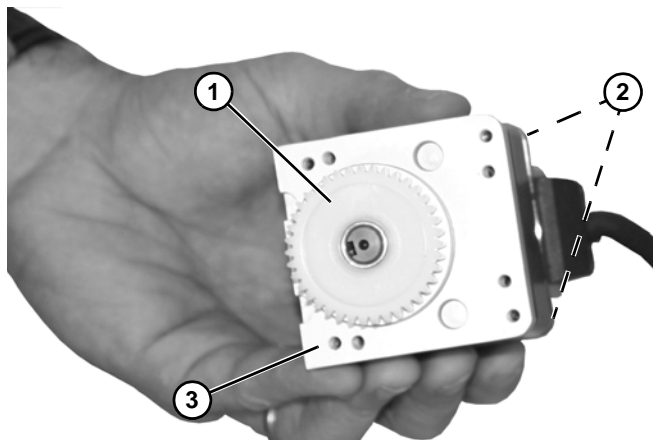

Figure 32
11. Loosen set screw and remove drive gear (Figure 32, item 1).
12. Remove (4) four screws (Figure 32, item 2) securing adapter plate (Figure 32, item 3) to gearmotor.